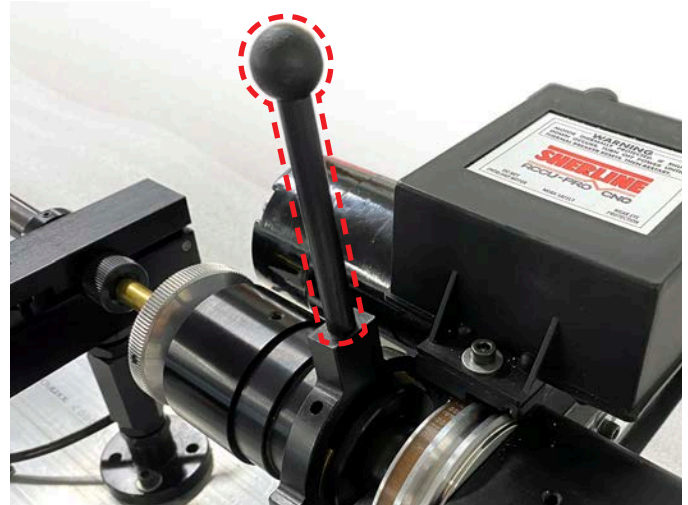

FIGURE 5
- G. Now close the collet by pulling the engagement lever back. The stock should be held securely in the collet now and the engagement lever should be in the closed position. If not, open the collet, turn the draw bar knob (2) more clicks CW, and close the collet again until the collet closes securely on the stock.
3. Now you are ready to assemble the pneumatic components. Remove the engagement lever (P/N 11501) from the lever collet closer (see Figure 5).